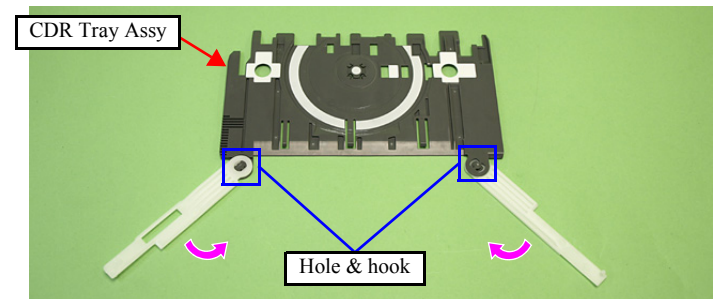

Figure 4-101. Reassembling the CDR Tray Assy
- If an arm comes off, place it to the CDR Tray at an angle as shown in Fig. 4-101, and insert the hook on the tray into the hole of the arm, then rotate it in the direction of the arrow to engage the arm to the tray.